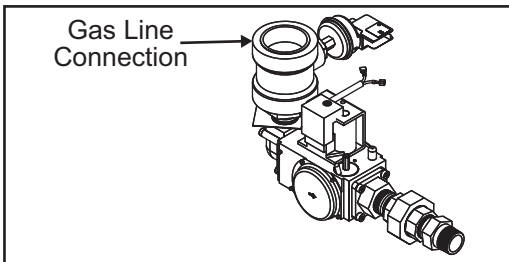

Figure 51. Supply Gas Line Connection
1. The water heaters covered by this manual are shipped from the factory with a 1 1/2" supply gas connection, see Table 1 on page 10. Connect the supply gas line to the water heater's 24 VAC Gas Valve in accordance with all applicable local and national code requirements, see Figure 51.